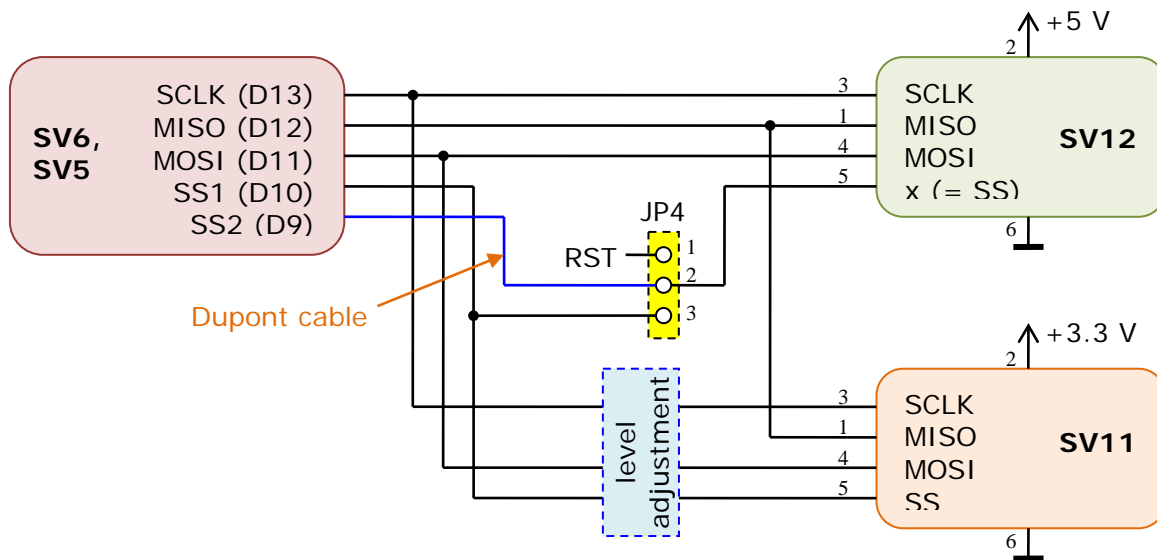

Figure 19: Simultaneous connection of two SPI modules to the MCCAB Training Board
If there is a need to connect a 3.3 V module and a 5 V module to the MCCAB Training Board at the same time, this can be realized with the wiring shown in Figure 19. Pins 1 and 3 of the pin header JP4 are unconnected, pin 2 of JP4 is connected to one of the digital GPIOs D2 ... D9 on pin header SV5 (arrow (3) in Figure 1) via a Dupont cable, as shown in Figure 19. This output of the microcontroller ATmega328P then fulfills the task of an additional SS signal at connector X (pin 5) of the pin header SV12. Figure 19 shows the procedure using the example of D9 as additional connector SS2.
In this case, both SPI interfaces SV11 and SV12 may be connected to external SPI slaves at the same time, because both SV11 and SV12 use different SS lines now: LOW level at GPIO D10 activates the SPI module at SV11 and LOW level at GPIO D9 activates the SPI module at SV12 (see Figure 19).
The microcontroller on the MCCAB Training Board may only exchange data with one module connected to the bus via SV11 or SV12 at the same time. As you can see in Figure 19, the MISO lines of both interfaces SV11 and SV12 are connected together. If both interfaces would be activated at the same time by LOW level at their SS-conector and would transfer data to the microcontroller, transmission errors and short circuits on the SPI lines would be the result!